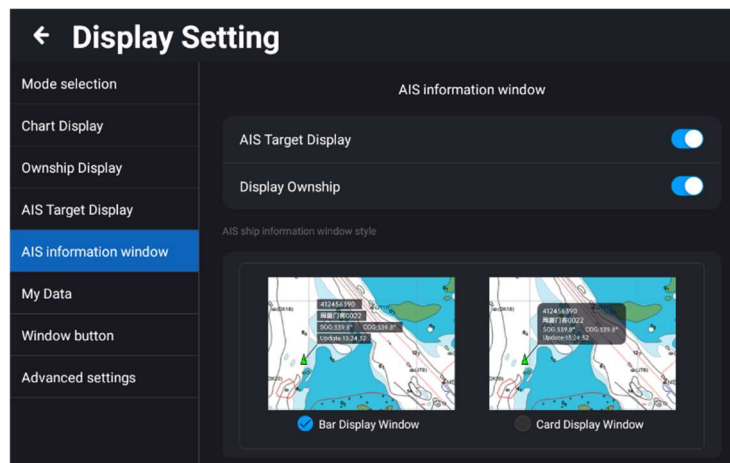

Figure 26 - AIS Information Window.
1. AIS target display: Can be enabled/disabled to display/hide all AIS ships on the chart. See Figure 26.
3. AIS ship information window style: Can be either set as *Bar Display Window* or *Card Display Window*. See Figure 26 for illustration.